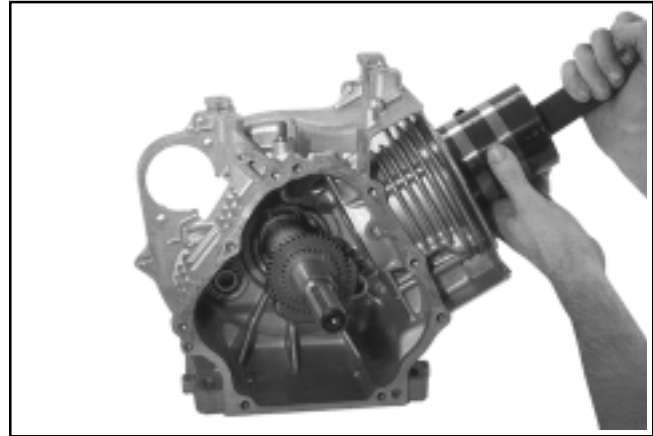

Figure 11-13. Installing Piston Using a Ring Compressor.
5. Make sure “V” stamping on piston is facing down toward the base of the engine. Use a hammer handle with a rubber grip and gently tap the piston into the cylinder as shown in Figure 11-13. Be careful that the oil ring rails do not spring free between the bottom of the ring compressor and the top of the cylinder.